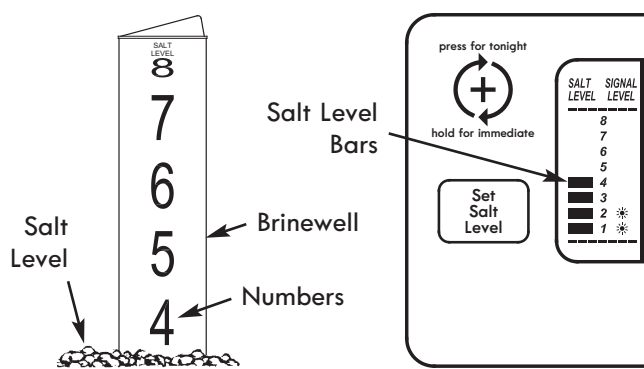

Figure 24
2. The salt level scale, on the brinewell inside the tank, has numbers from 0 to 8 (see Fig. 24). Observe the highest number the leveled salt is at, or closest to.
3. Press the SET SALT LEVEL button as many times as necessary to make the salt level bars in the display (see Fig. 24) match the number on the brinewell. At level 2 or below, the "Low Salt" indicator will flash.